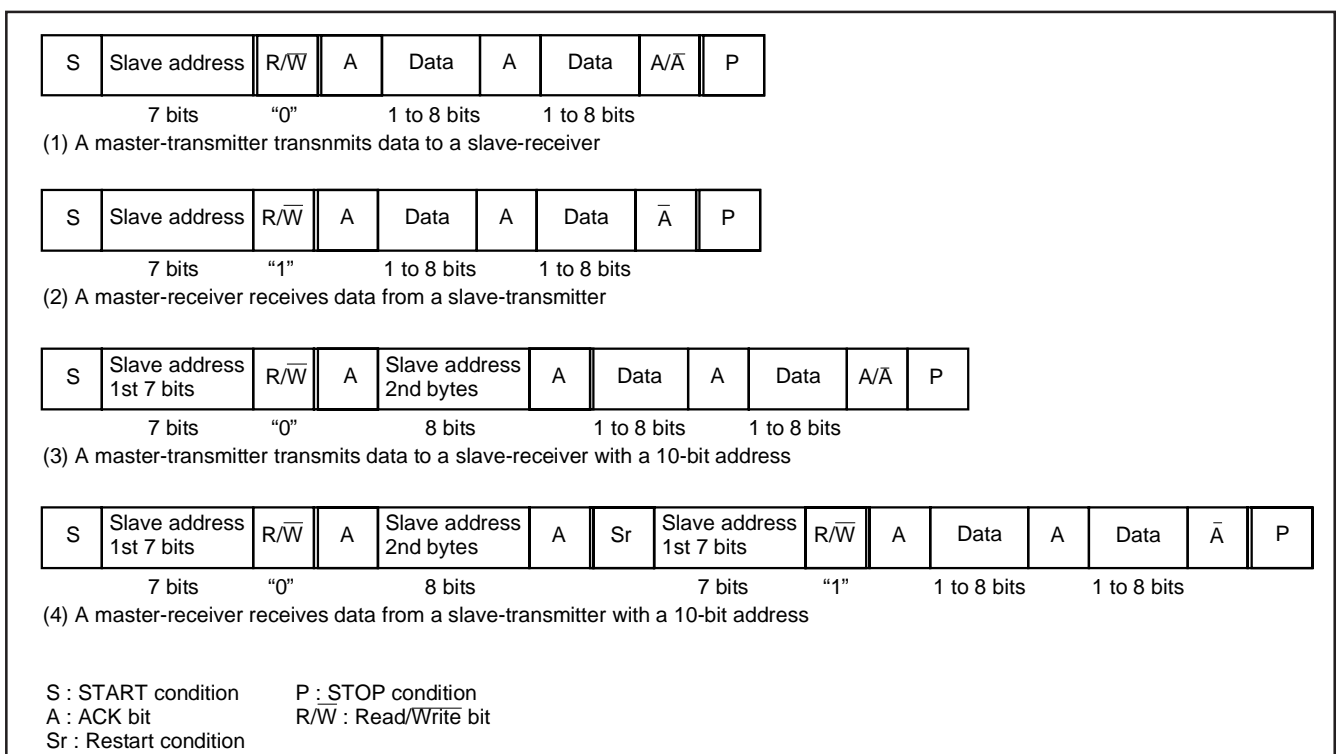

Fig. 46 Address data communication format
① 7-bit addressing format
To adapt the 7-bit addressing format, set the 10BIT SAD bit of the I²C control register (address 0015₁₆) to "0." The first 7-bit address data transmitted from the master is compared with the high-order 7-bit slave address stored in the I²C address register (address 0013₁₆). At the time of this comparison, address comparison of the RBW bit of the I²C address register (address 0013₁₆) is not performed. For the data transmission format when the 7-bit addressing format is selected, refer to Figure 46, (1) and (2).
② 10-bit addressing format
When the first-byte address data agree with the slave address, the AAS bit of the I²C status register (address 0014₁₆) is set to "1." After the second-byte address data is stored into the I²C data shift register (address 0012₁₆), perform an address comparison between the second-byte data and the slave address by software. When the address data of the 2 bytes agree with the slave address, set the RBW bit of the I²C address register (address 0013₁₆) to "1" by software. This processing can make the 7-bit slave address and R/W data agree, which are received after a RESTART condition is detected, with the value of the I²C address register (address 0013₁₆). For the data transmission format when the 10-bit addressing format is selected, refer to Figure 46, (3) and (4).